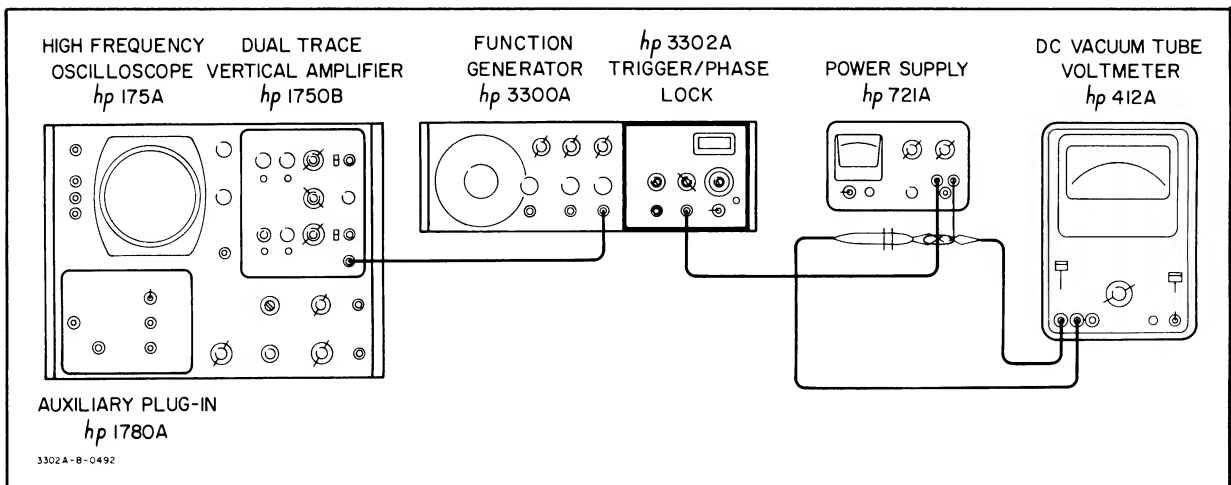

Figure 5-4. Trigger Amplitude Check Test Setup
- b. Connect test equipment as shown in Figure 5-4, Trigger Amplitude Check Test Setup.